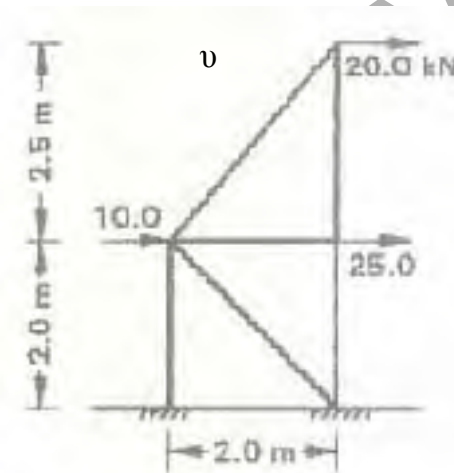

Figure 2
- Analyze the truss indicated in figure 2 by method of sections. [15]